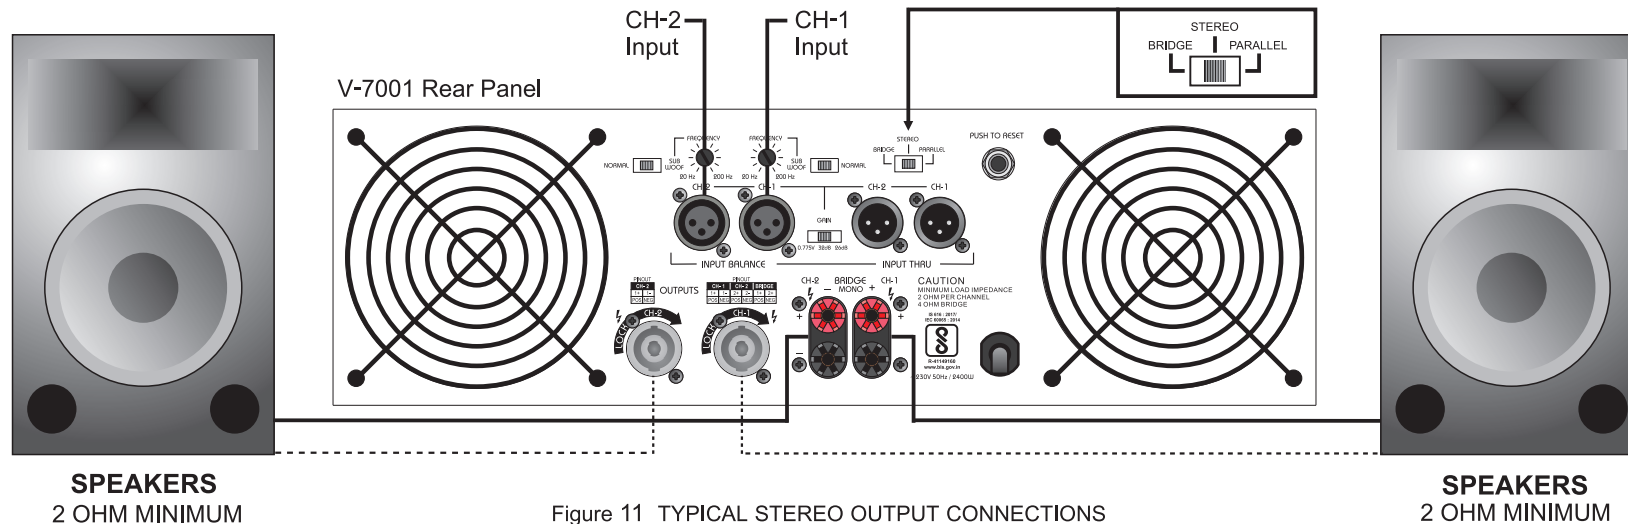

Figure 11 TYPICAL STEREO OUTPUT CONNECTIONS
**STEREO OPERATION:** Page 9/ Figure 11 details an example of a typical stereo set-up. Connect your inputs into channels one and two of the amplifier. Connect your speakers to the outputs on the rear of the amplifier. Be sure that your front gain controls are turned down to their lowest level (fully counter-clockwise). Turn your amp on. Turn your input source level up. Use your front gain controls to regulate the output volume. Be sure not to raise the volume to the clip level, however an intermittent clip signal is acceptable.